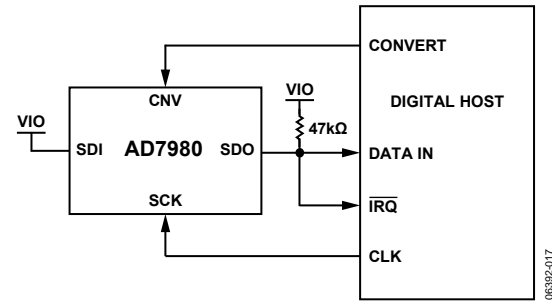
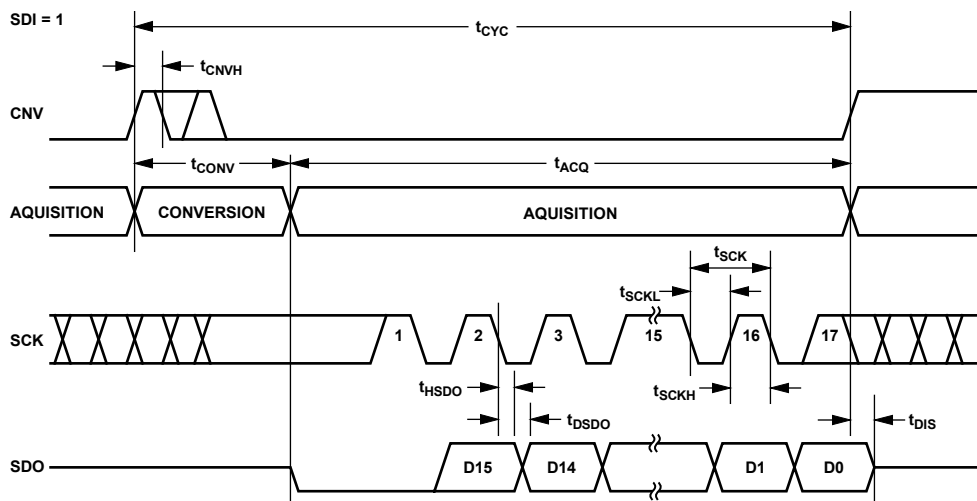
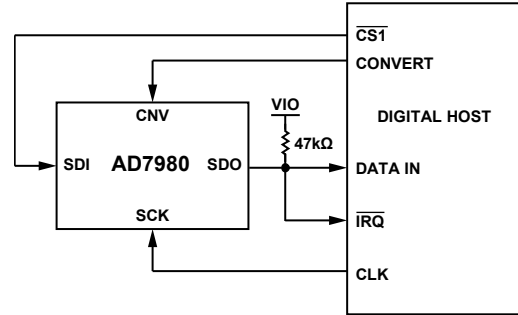
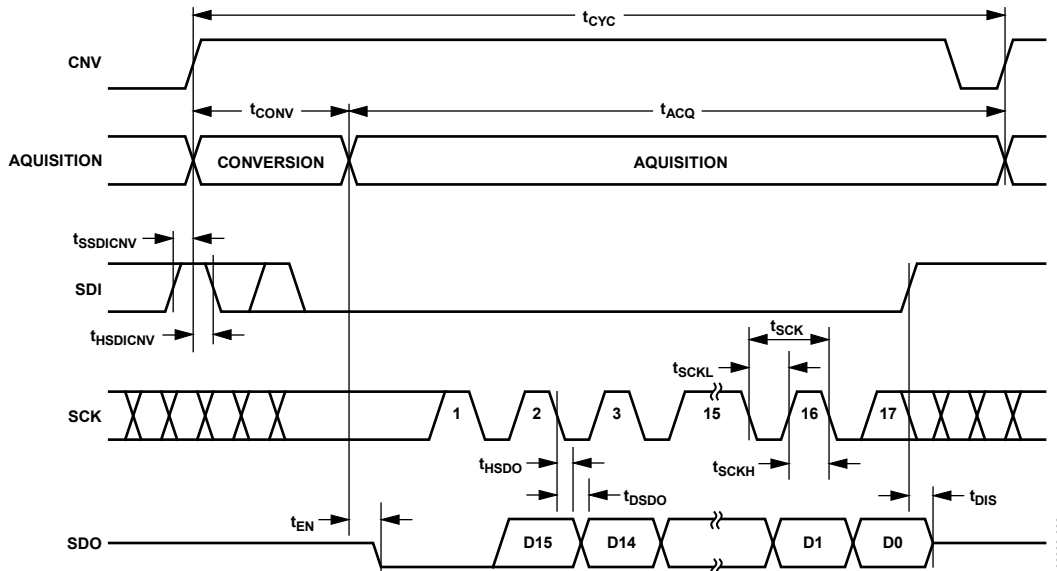

Figure 33. 3-Wire $\overline{\text{CS}}$ Mode with Busy Indicator Connection Diagram (SDI High)
Figure 34. 3-Wire $\overline{\text{CS}}$ Mode with Busy Indicator Serial Interface Timing (SDI High)
Figure 37. 4-Wire CS Mode with Busy Indicator Connection Diagram
Figure 38. 4-Wire CS Mode with Busy Indicator Serial Interface Timing
- In the $\overline{\text{CS}}$ mode if CNV or SDI is low when the ADC conversion ends (see Figure 34 and Figure 38).
The connection diagram is shown in Figure 33, and the corresponding timing is given in Figure 34.
The connection diagram is shown in Figure 37, and the corresponding timing is given in Figure 38.